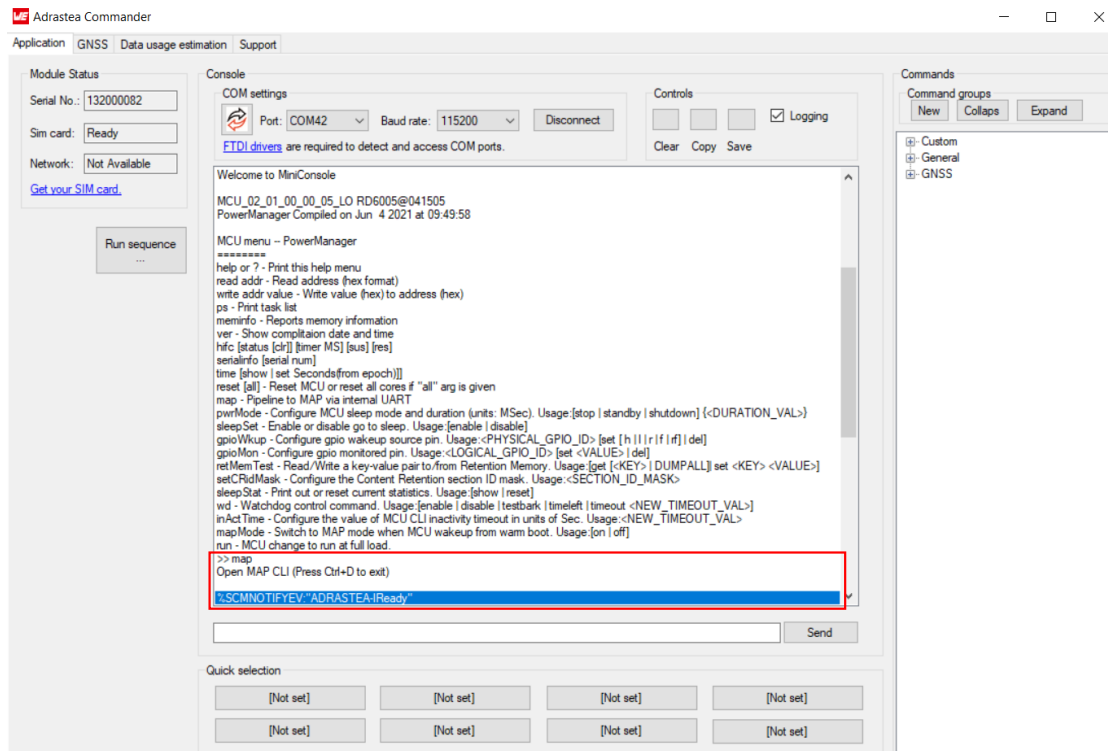

Figure 17: MiniConsole start view - Adrastea Commander
5. Press the reset button on the EV-Board to ensure a clean start-up of the module. See figure 17.